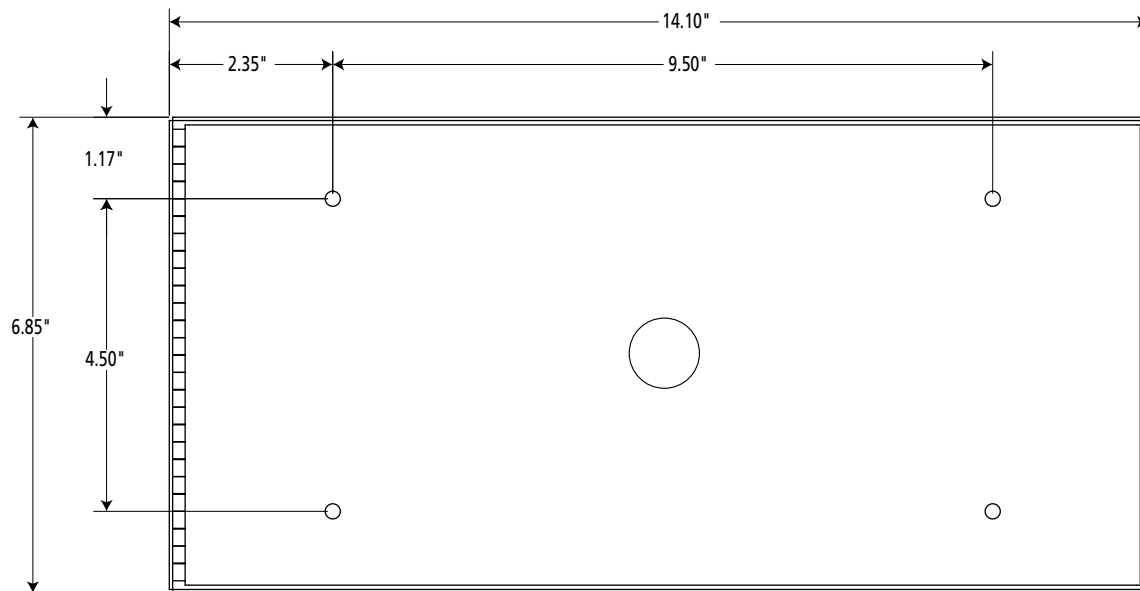

Figure 1
2. Place housing at the intended mounting location (wall or ceiling installation is acceptable). Locate and drill (4) pilot holes in mounting surface using housing as template or see Figure 1 below. Using 1/4-20 fasteners and anchors appropriate to the mounting surface (supplied by others), mount housing to surface.